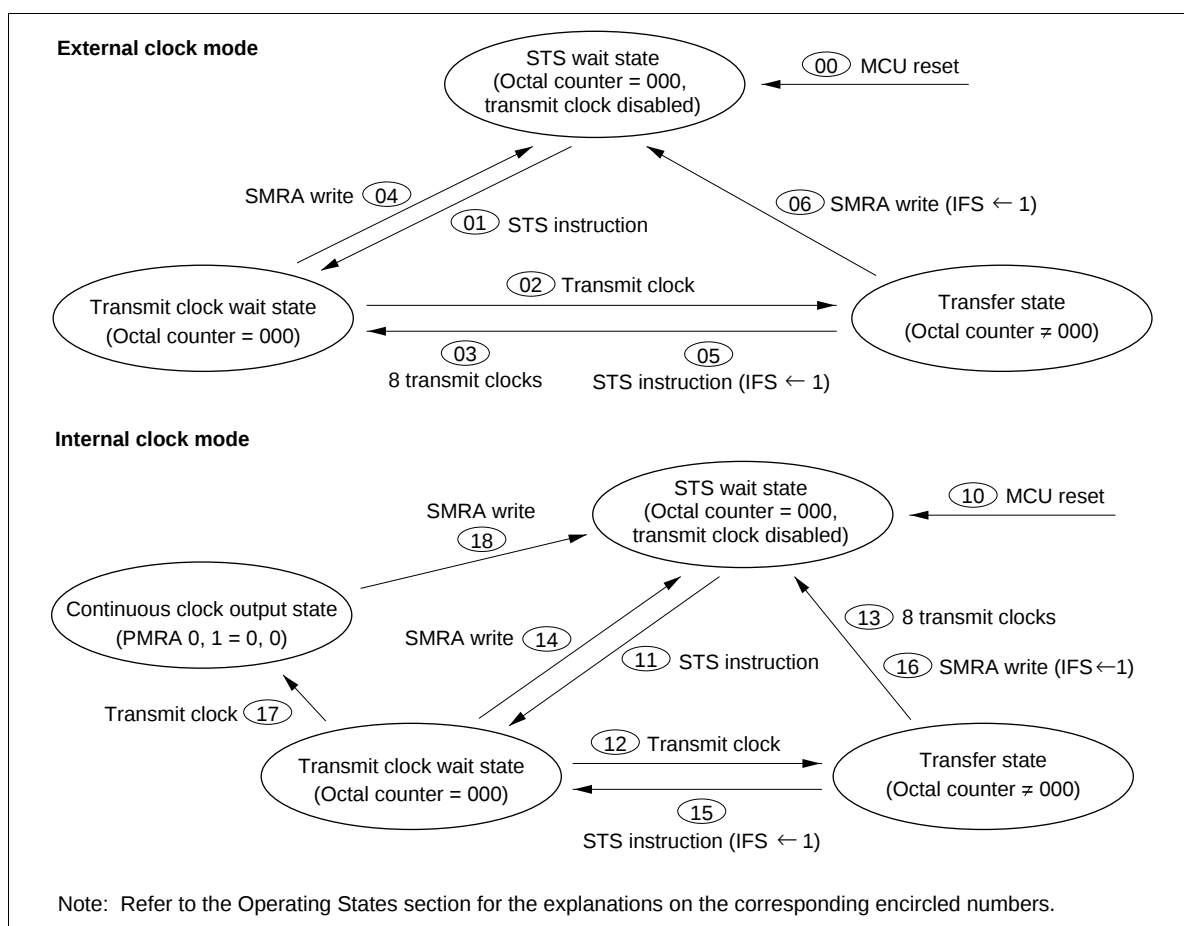

Figure 68 Serial Interface State Transitions
Operating States: The serial interface has the following operating states, which allow transitions to occur between them (figure 68).
- STS wait state: The serial interface enters STS wait state by MCU reset (00 and 10 in figure 68). In STS wait state, the serial interface is initialized and the transmit clock is ignored. If the STS instruction is then executed (01 and 11), the serial interface enters transmit clock wait state.